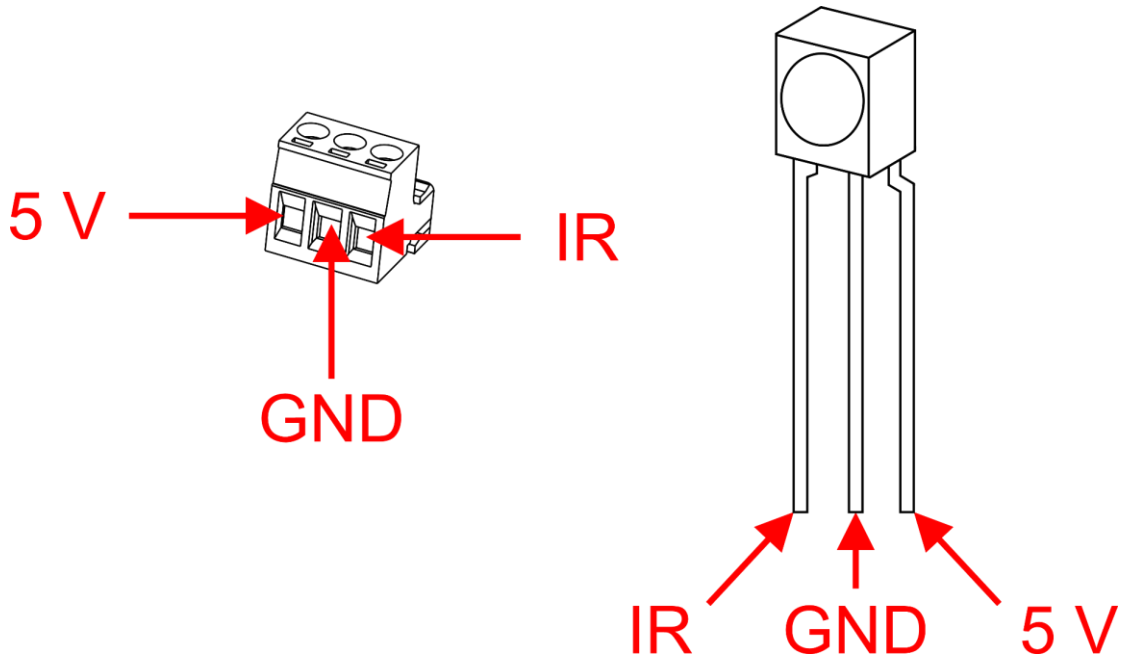

Fig. 15
02) Connect a common available IR sensor to the device's **3-pin Phoenix terminal connector IR sensor IN (07)**. Insert the cables correctly. See Fig. 15.